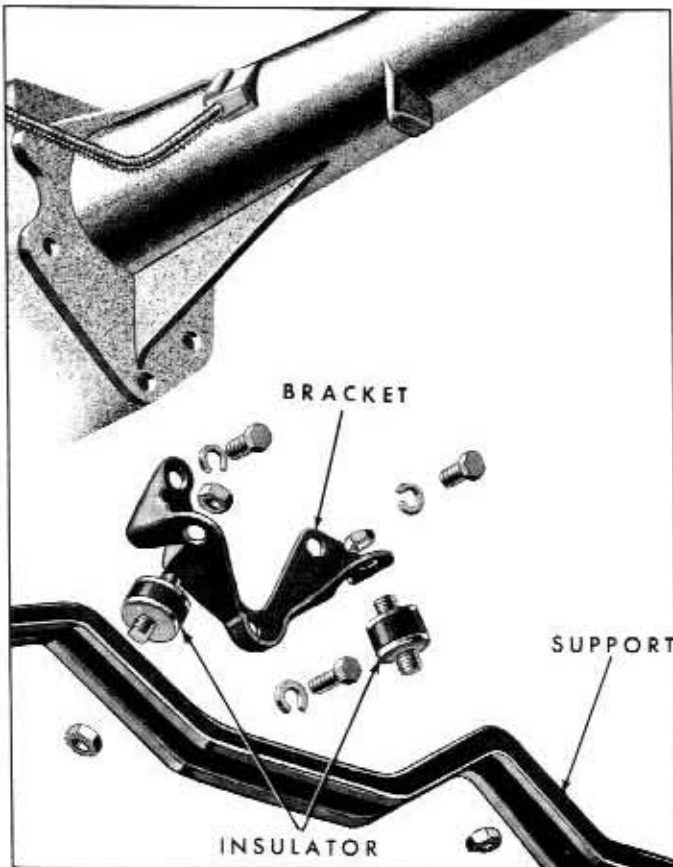

Fig. 6A-12—Engine Rear Support—(60C-5612)
13. Lower the car. Support the transmission and flywheel or converter housing with a jack. The engine rear support shown in figure 6A-12, need not be disturbed when removing the engine when it has been detached from the transmission.